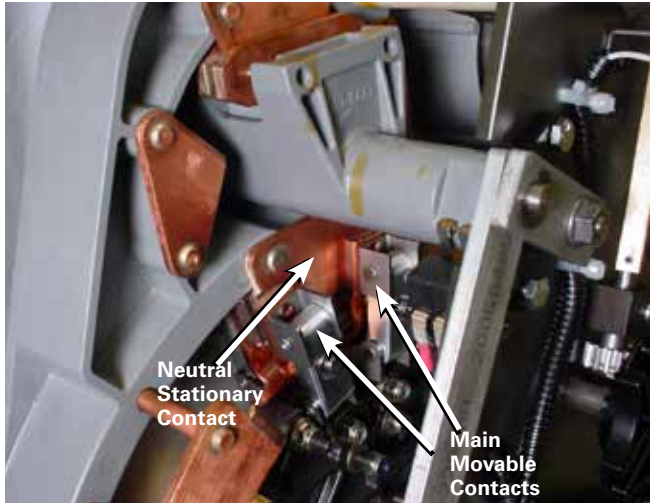

Figure 83. Neutral position for main movable contacts.
- A. Main movable contacts are located on the neutral stationary contact, which is located at the 11 o'clock position and under the reversing switch movable contact assembly. See Figure 83.